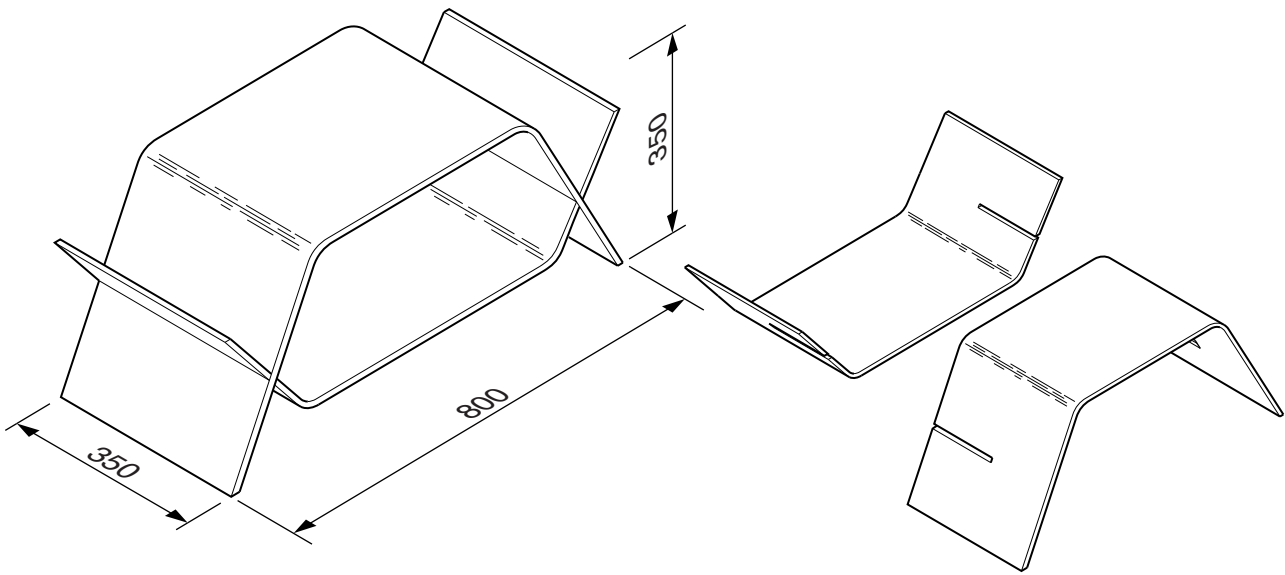

Fig. 11
- 13 Fig. 11 shows details of a coffee table made from two separate parts. Each part is made from laminated wood.